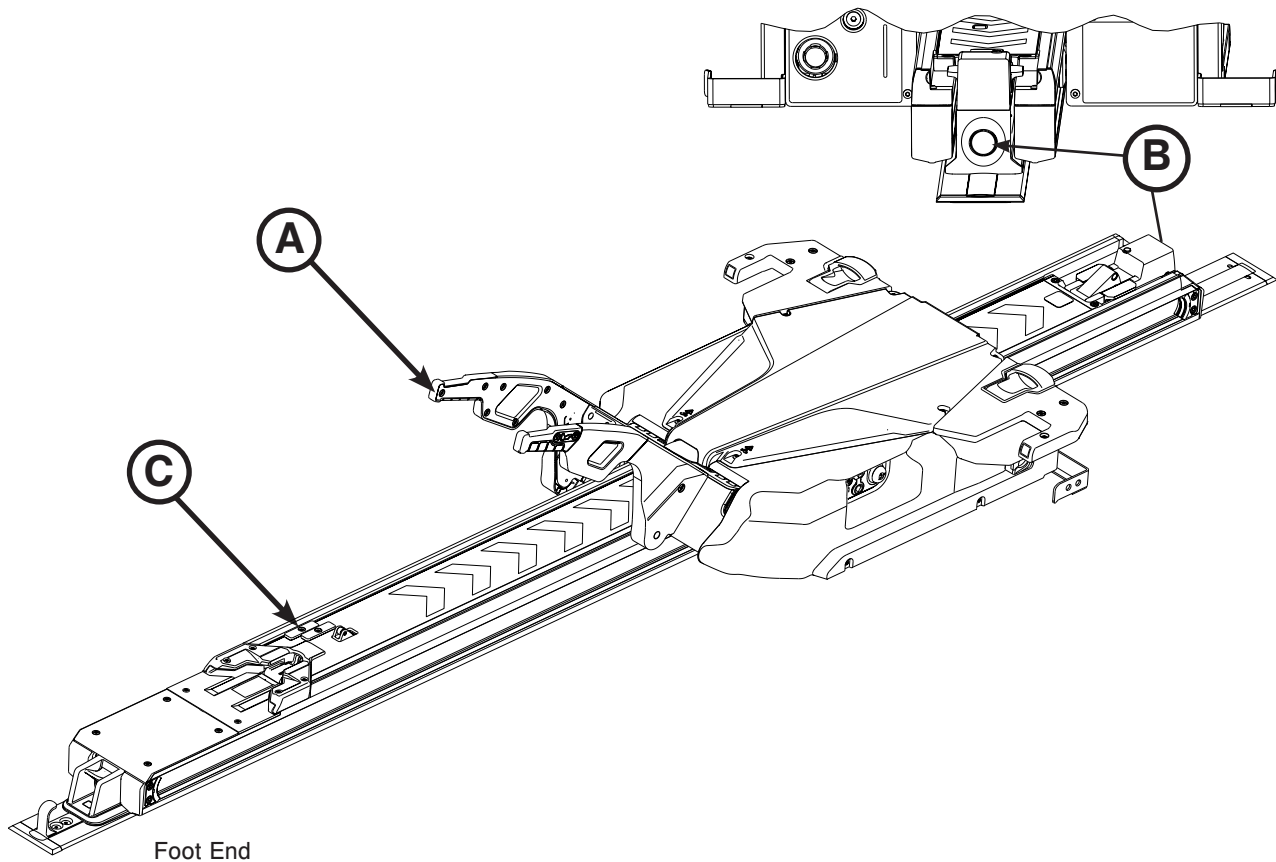

Figure 59
1. Raise the lifting arms (A), press the trolley release button at the head end of the anchor (B), and pull the trolley toward the foot end to the middle of the transfer assembly (Figure 59).
2. Slide the patient right transfer lock trigger (C) to extend and pull the transfer towards the foot end until the transfer stops at its first lock position (Figure 59).